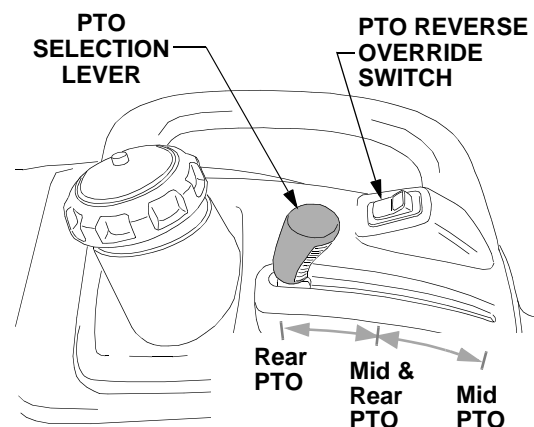

Figure 20
- Shift the PTO selection lever rearward to select the rear PTO. The rear PTO is used to drive equipment designed to operate at an input speed of 540 RPM. See Figure 20.
The PTO reverse override switch, located on the left fender, allows the PTO to operate while the tractor is traveling in the reverse direction. Refer to Figure 20.